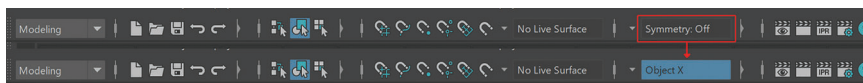

FIGURE 1.11 Turning symmetry on to allow us to mirror our modeling work.
Step 7: Turn on symmetry. Modeling is time-consuming, so we want to save time if possible. To do this, we can turn on symmetry, so we do not have to manually add the edge loop on the other side. The setting is located on the second row of buttons (Figure 1.11). By default, the setting is at Symmetry: Off. Click on the drop-down arrow on the right and choose Object X to toggle symmetry on across the X axis (Figure 1.11). After toggling symmetry on, selecting and performing commands on one side of the geometry will affect the other side.